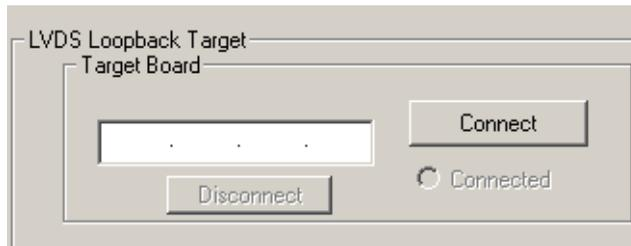

Figure 2-19. LVDS Loopback Target Box
- 3. Connect the target board (a second Axcelerator Development System).** Specify the IP address of the target board in the LVDS Loopback Target block of the LVDS Board-Board Loopback Test window and click *Connect*. See Figure 2-19.